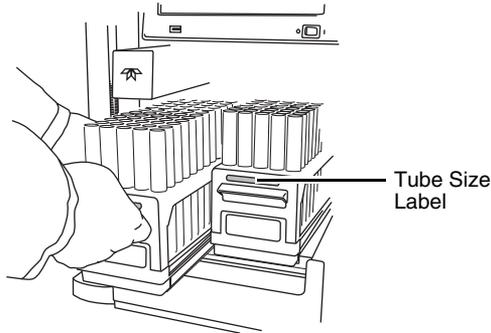

Figure 2-8 Inserting the collection tube rack
2. While holding the rack with the tube size label visible (Figure 2-8), insert the racks into the system. Slide the rack in until you feel it drop into its seated position.